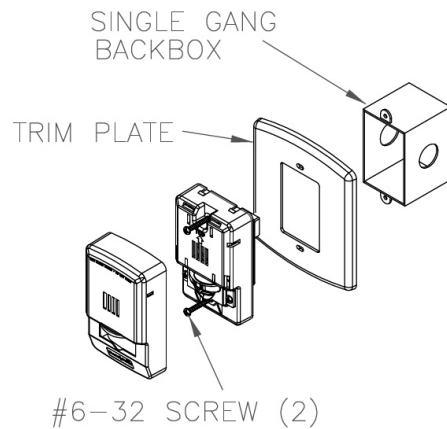

Figure 1: Single Gang Box Retrofit
2. Use mounting screws supplied with this product and mount backbox as shown in the Figure 1.